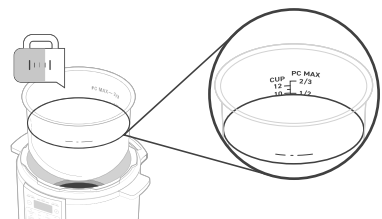

Figure 8.1
2. Fill the inner pot with water to the **"-1/2"** line. **[Figure 8.1]**